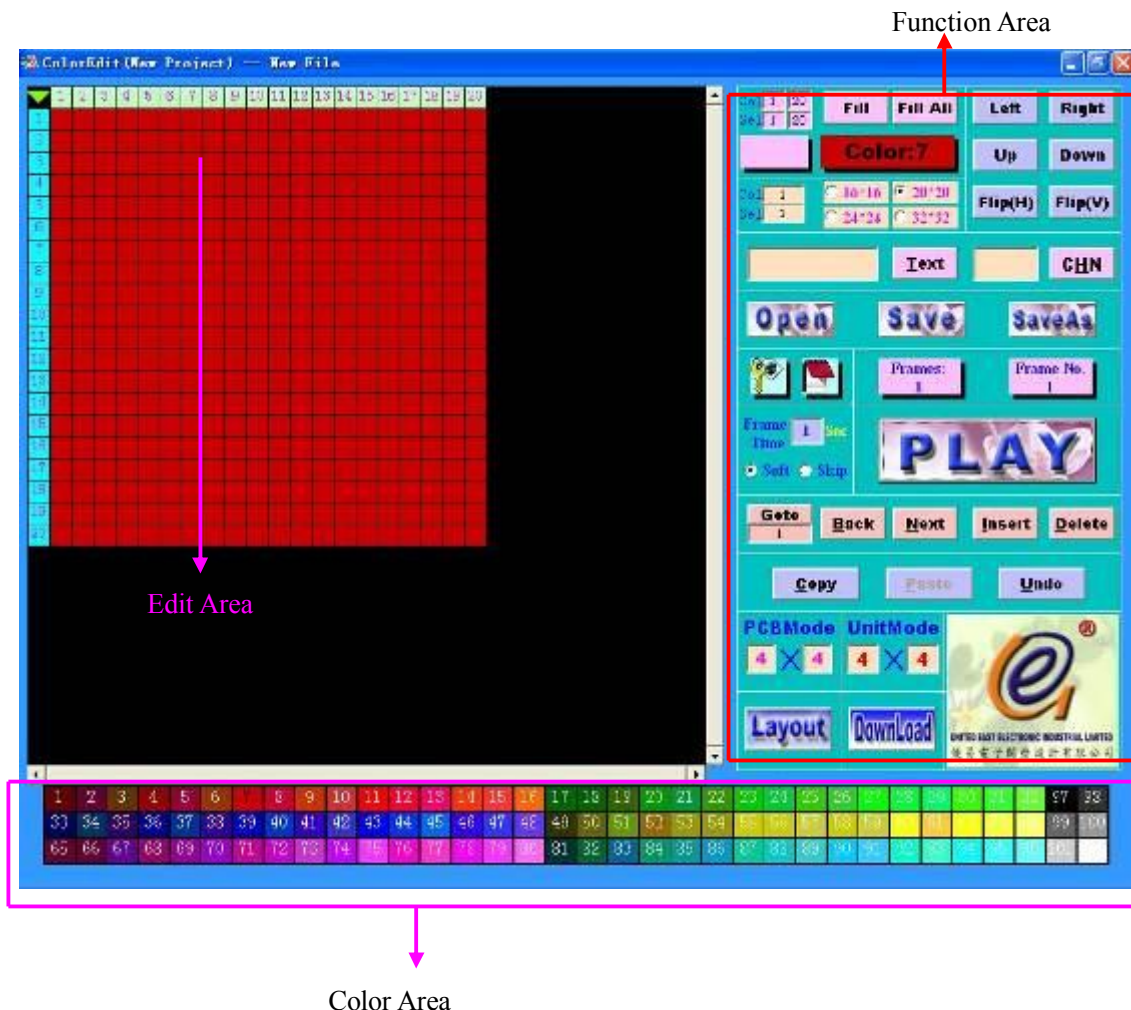

Figure1.2 Edit Interface
- 5、After completion of above steps, click Edit  to edit the program, see figure 1.2.
The Color Edit interface includes three areas of Function Area, Color Area and Edit Area, see figure 1.2.